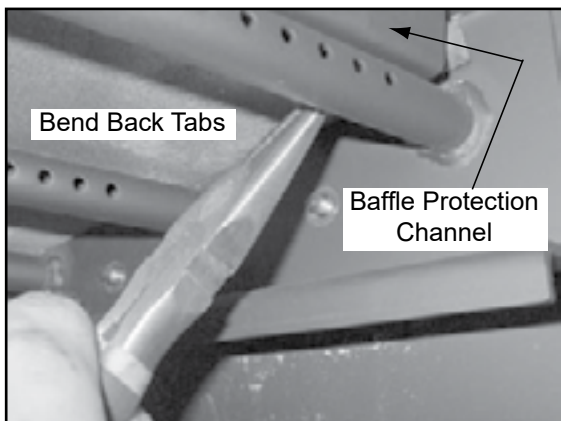

Figure 26.2
3. Locate the 2 channel nuts and two bolts inside of chamber and remove using a 7/16 socket wrench (**Figure 26.2**).